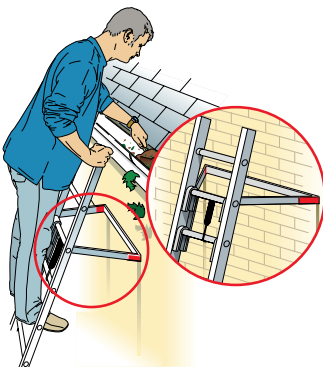

Figure 9 Stand-off device and working maximum height on a ladder
- don't use the top three rungs (see Figure 9);
- don't rest **ladders** against weak upper surfaces (eg glazing or plastic gutters). Alternatively, you can use effective spreader bars or effective stand-offs (see Figure 9).